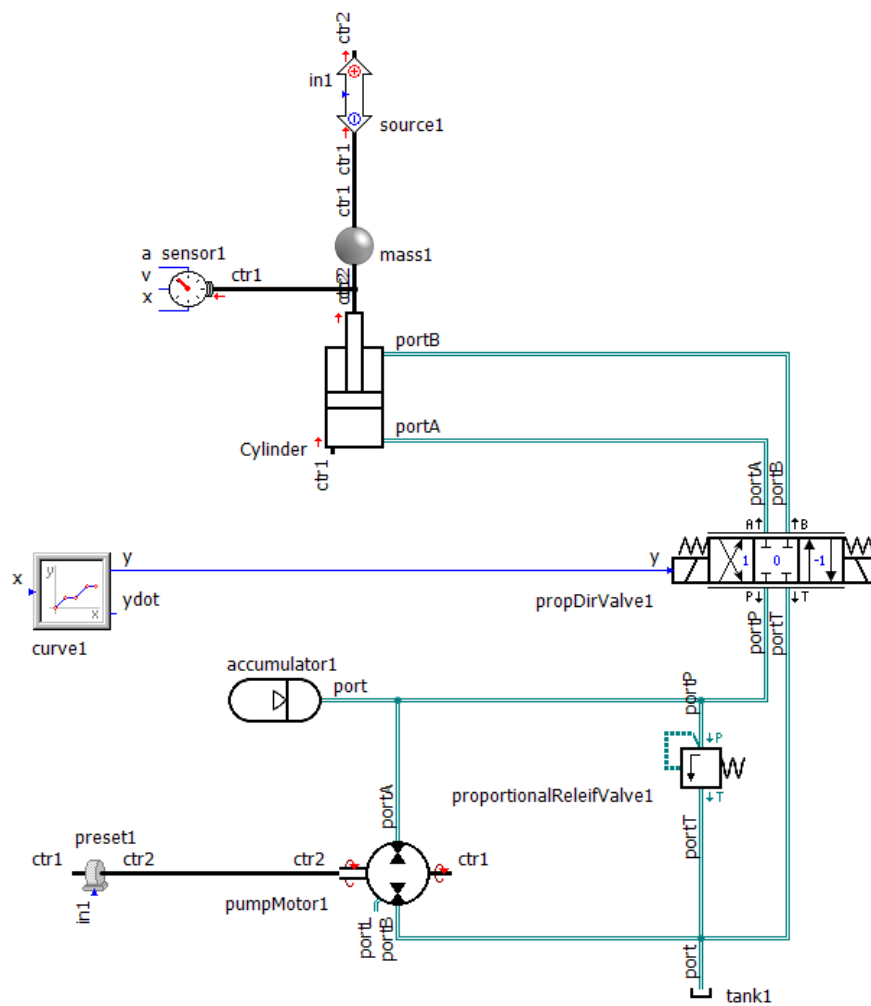

Figure 4: Modified model structure with accumulator
- Open the library "Hydraulics" (Accessories and Sensors) and connect the "Hydropneumatic Accumulator"  according to Figure 4: